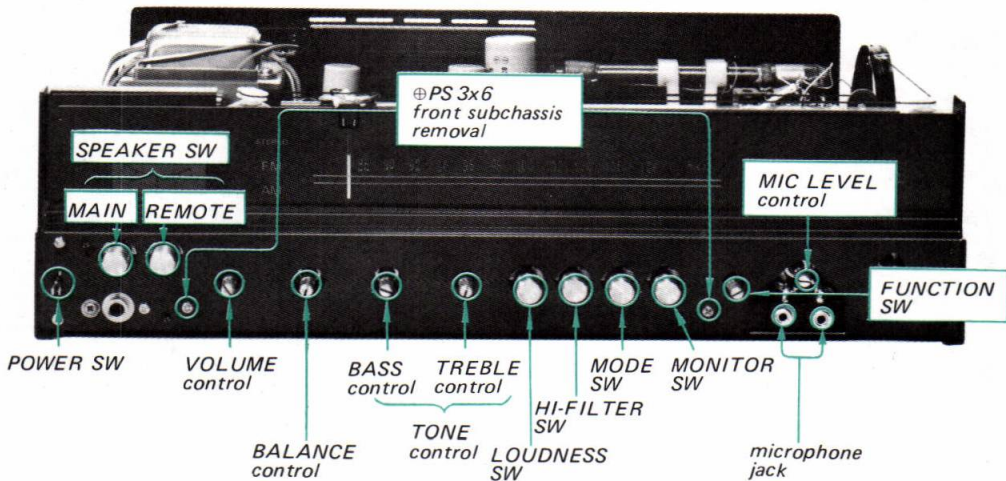

Fig. 2-17. Front subchassis removal (2)
3. Remove the two screws securing the front subchassis to the control bracket and two microphone jacks as shown in Fig. 2-17. This frees control board.